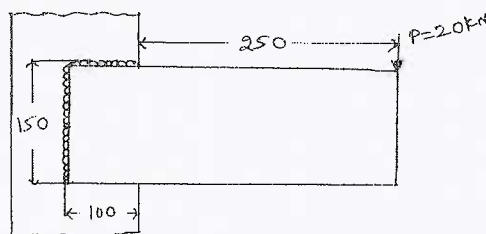

Fig.Q8(a)
- 8 a. A  $16 \text{ mm}$  thick plate is welded to a vertical support by two fillet welds, as shown in Fig.Q8(a). Determine the size of weld, if the permissible shear stress for the weld material is  $75 \text{ MPa}$ .